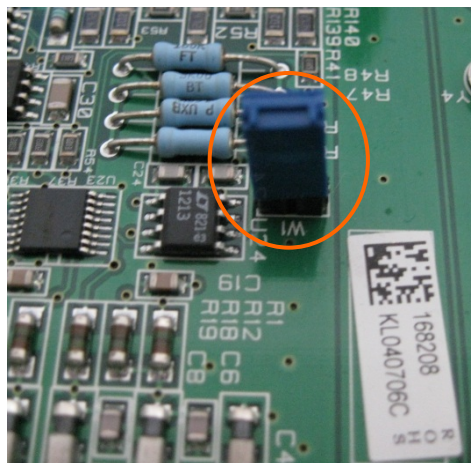

Figure 3-48: Millivolt Jumper Location (left) and Positions (right)
The IND560x Main board has a jumper, W1, which selects either 2 mV/V or 3 mV/V operation of the analog circuitry when the Analog load cell connection is activated on the main board. This jumper is not used when the IDNet or SICSpro connection is activated on the IND560x main board. Figure 3-48 indicates the jumper's location and positions.
- When removing the W1 jumper for 3mV/V operation, reposition it on just one of the pins as shown at lower right in Figure 3-48.